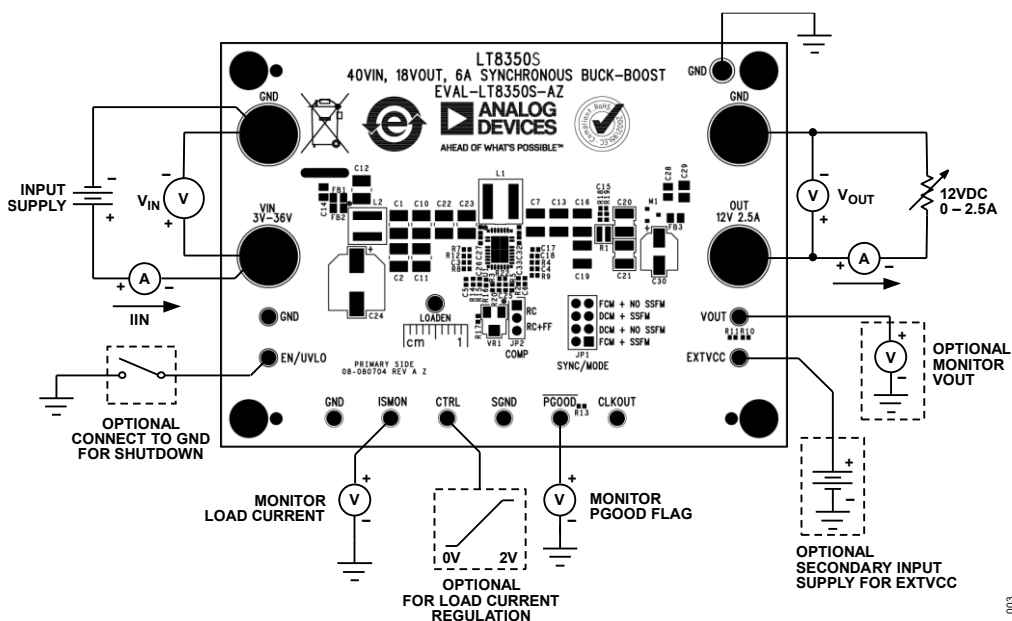

Figure 3. Test Procedure Setup Drawing for EVAL-LT8350S-AZ
EVAL-LT8350S-AZ Evaluation board is easy to set up to evaluate the performance of the LT8350S. See Figure 3 for proper measurement equipment setup and follow the procedure below. Ensure that the voltage applied to V_{IN} does not exceed 40V, which is the voltage rating for input side MOSFETs.
1. With power off, connect a load capable of 12V 2.5A operation between OUT and GND terminal on the PCB, as shown in Figure 3.
2. Connect the EN/UVLO terminal to GND with a clip-on lead. Connect the power supply (with power off) and meters, as shown in Figure 3.